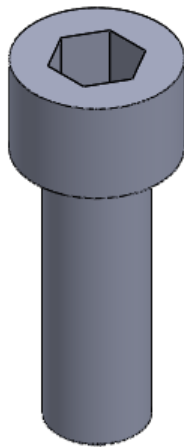
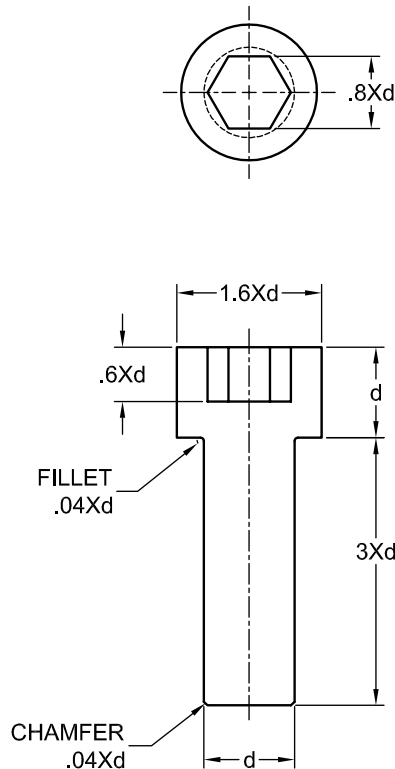
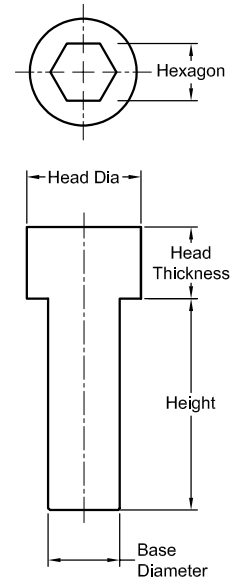

Figure 19-43 Socket Head Screw
Figure 19-44 Parameters of the Socket Head Screw
Figure 19-45 The names of dimensions
In this tutorial, you will create the Socket Head Screw shown in Figure 19-43. Assume the base diameter of the screw **d** as **30** mm. Add equations to the model, as shown in Figure 19-44. Then, create different configurations by changing the base diameter to **20** mm, **50** mm, **40** mm, and **5** mm and the other related parameters with respect to the relations given in Figure 19-44.
- Dimension the sketch based on the relations given in Figure 19-44. While placing the dimensions, you need to change the name of the dimensions in the **Primary Value** rollout of the **Dimension PropertyManager**. Refer to Figure 19-45 for the names of dimensions.
- Draw a hexagon on the top face of the base feature and dimension it. Change the name of the dimension, as shown in Figure 19-45.
8. Enter the dimensions for the new instances with respect to the equations shown in Figure 19-44. The Excel sheet after adding the dimensions is shown in Figure 19-47.
11. Add equations to the fillet and chamfer dimensions using the **Equations** dialog box, as specified in Figure 19-44.